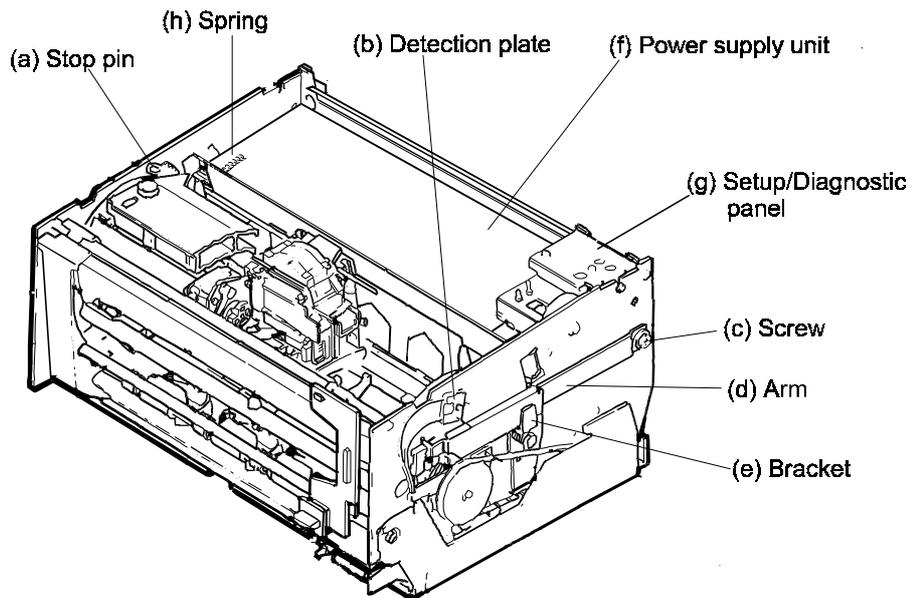

Figure 3-31 Preparing to remove the print unit
2. Check that the adjustable rear end of arm (d) in Figure 3-31 is in its uppermost position.